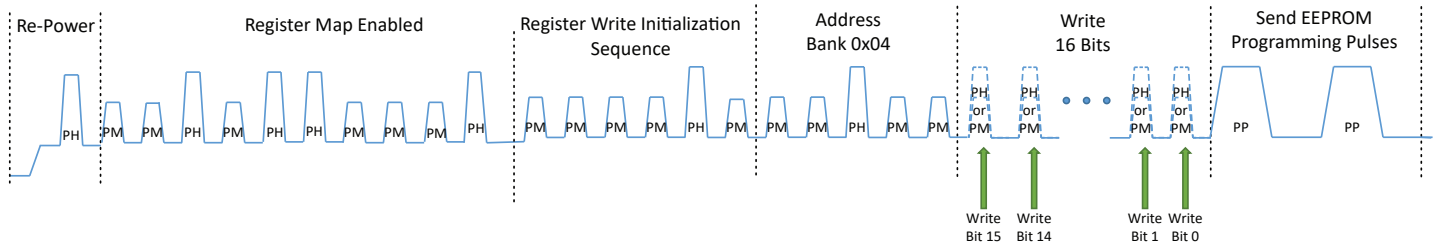

Figure 20: VCC Pulse Sequence to write data to 0x04 EEPROM Register
To write bits into the EEPROM registers, an entire bank of 16 bits must be written at once. To perform the write, a sequence of initialization and addressing pulses must be applied to the VCC pin of the device and then the 16 desired bits must be entered into the device as a series of high-voltage (PH) and medium-voltage (PM) pulses, with PH pulses representing digital 1s and PM pulses representing digital 0s. The programming sequence required to write to EEPROM bank 0x04 after a re-power is shown below in Figure 20. Writing subsequent registers repeats the same pattern without the need to re-power or re-enable the register map. Figure 21 shows the sequence to write the EEPROM addresses 0x05 and 0x06 after following the initialization sequence shown in Figure 20. Entering EEPROM write mode without having power-cycled the device, such as after completing a shadow write, is achieved by skipping the initial Re-Power PH pulse. The 16-bit sequence from each bank must be established based on the information in Table 3 and Table 4. Once the lock bit in EEPROM bank 0x04 is set to 1, no further programming can occur. Therefore, EEPROM bank 0x05 and 0x06 must be written before the final write of bank 0x04.
2. If the APS11900 has been power-cycled since the last Read or Write to EEPROM, then the register map must first be enabled using that portion of the sequence shown in Figure 20.